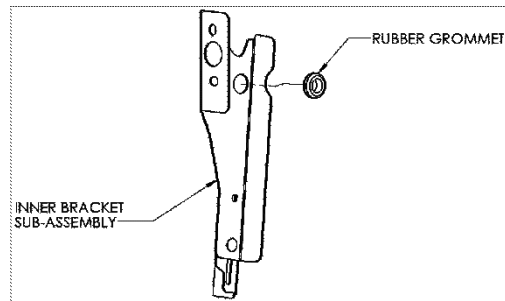

FIGURE 4 – Inner bracket, driver side shown
5. Install grommet in the side of each Inner Bracket sub-assembly (FIGURE 4).